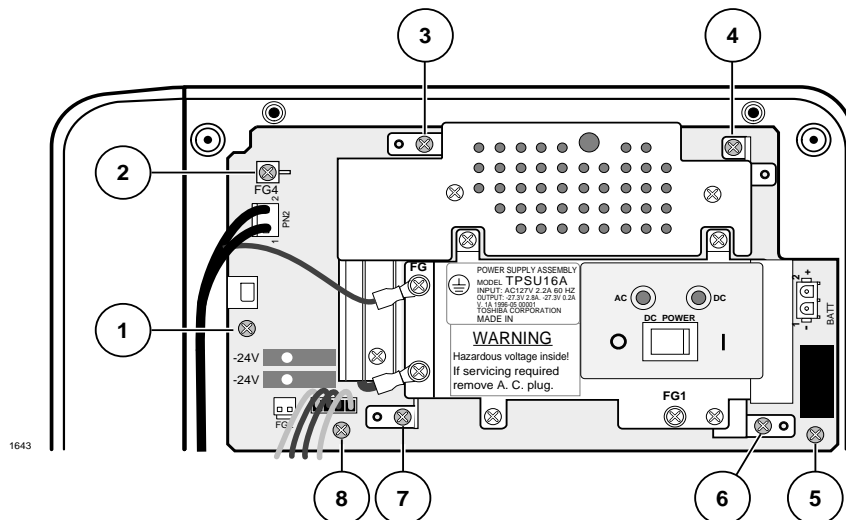

Figure 3-14 Power Supply (TPSU16A)
1. Make sure that the power supply switch is OFF and that the AC power cable is not plugged into an outlet. Confirm that the green AC LED is not lit (see Figure 3-14).
1. Set the power supply in its proper place in the Base KSU (see Figure 3-14).